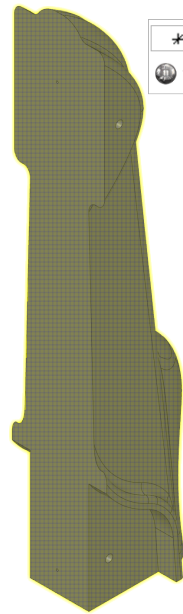

Fig. 5
Step 1. Click the solid Body to select, **Fig. 5**. The solid will highlight when selected.